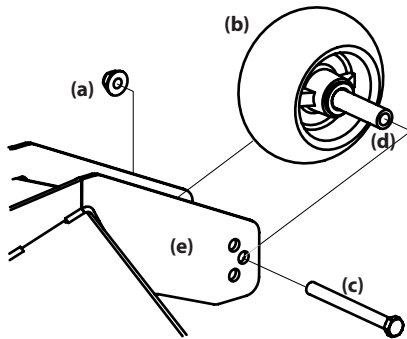

Figure 4-12
2. Remove the lock nut (a) securing one of the front gauge wheels (b) to the deck. Remove the front gauge wheel (b), hex screw (c) and spacer (d). See Figure 4-12.
3. Insert the hex screw (c) into one of the three index holes in the front gauge wheel bracket (e) that will give the front gauge wheel (b) a 1/4-1/2" clearance with the ground. See Figure 4-12.
4. Note the index hole of the just adjusted front gauge wheel (b), and adjust the other front gauge wheel (b) into the respective index hole of the other front gauge wheel bracket (e). See Figure 4-12.